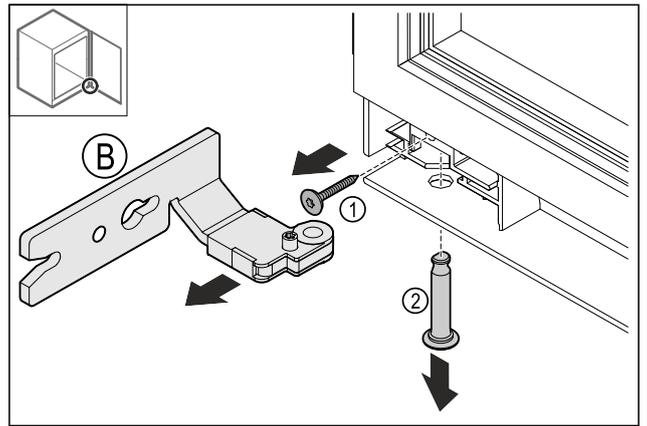

Fig. 16
- ▶ Remove the screw Fig. 16 (1).
- ▶ Remove the bolt Fig. 16 (2).
- ▶ Remove the hinge Fig. 16 (B).